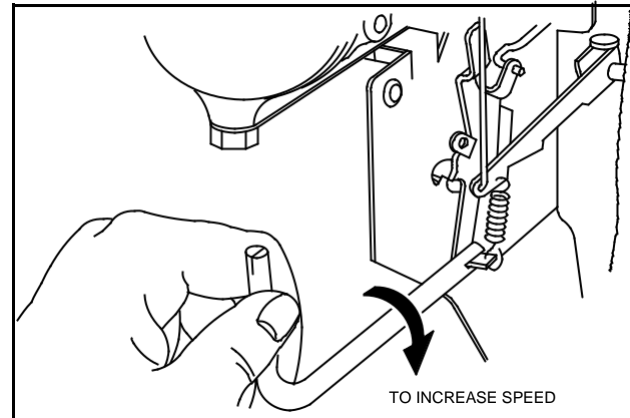

Fig. 352 - ADJUSTING TOP-NO-LOAD RPM
3. Set engine speed per Table No. 13, Page 72 by bending governor tang, Fig. 352.